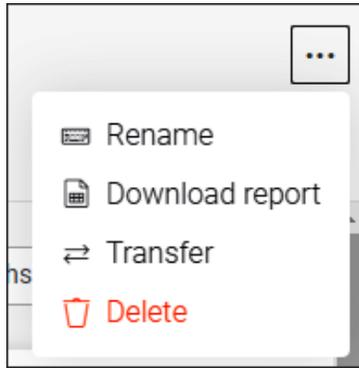

Figure 70. Transferring Device
4. Click on the “...” button on the top right menu and select “Transfer”. See **Figure 70**.